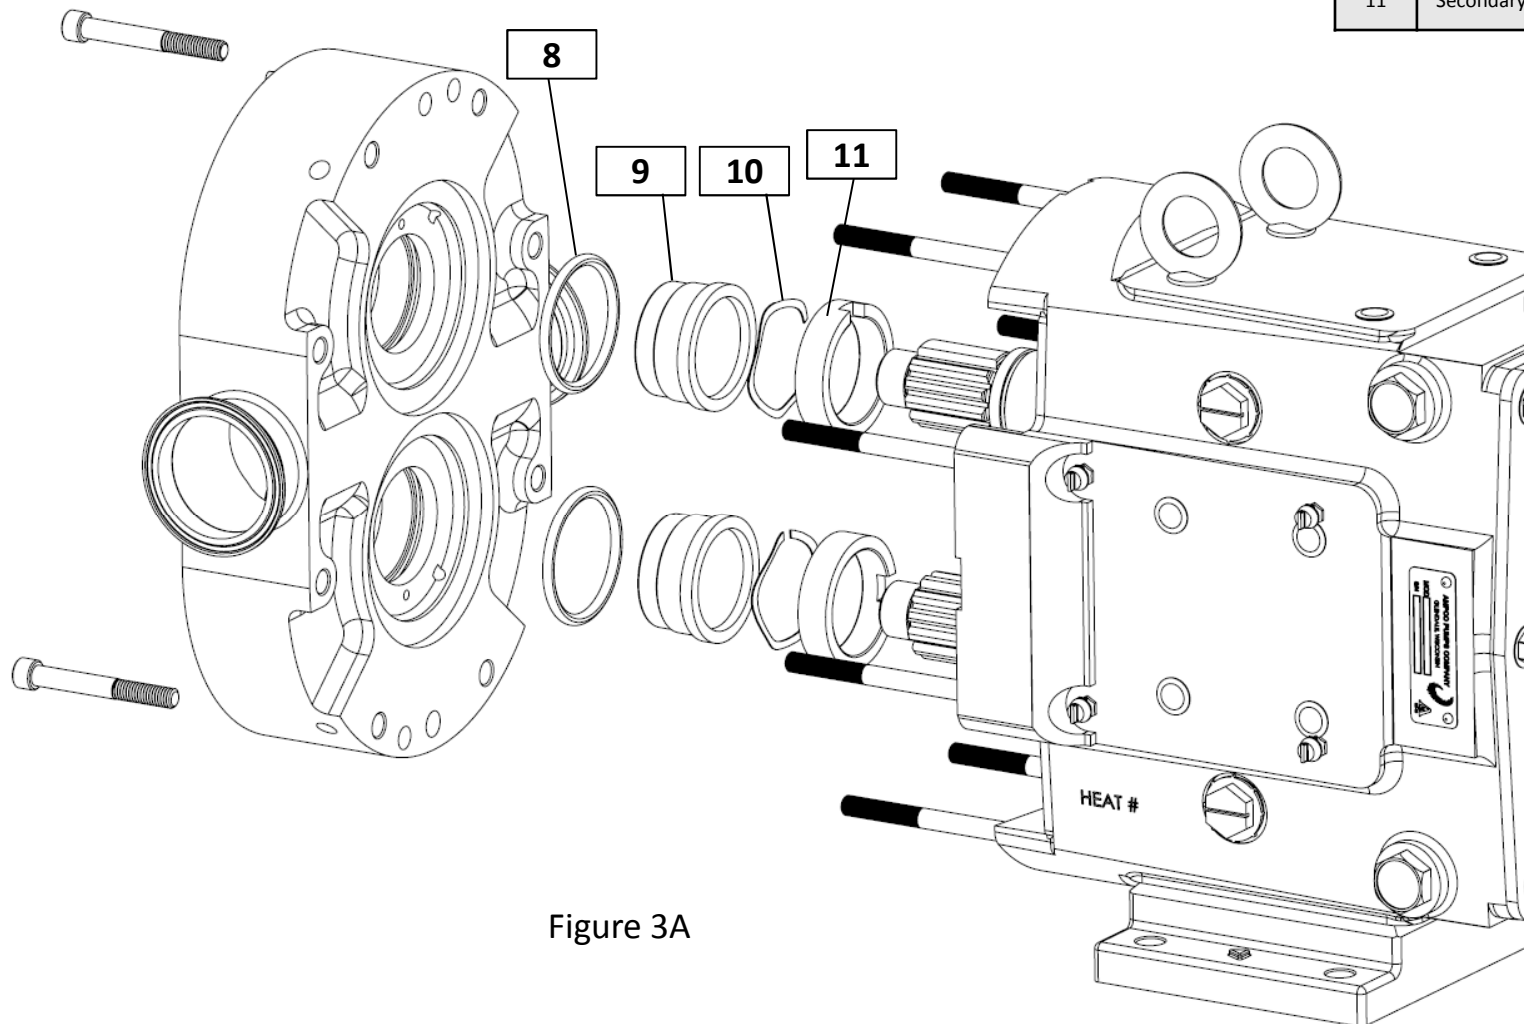

Figure 3A
2. Remove the sleeves (Figure 3A, #9 & 11) from the shafts. Clean the shaft and wave spring to ensure movement is free and easy.